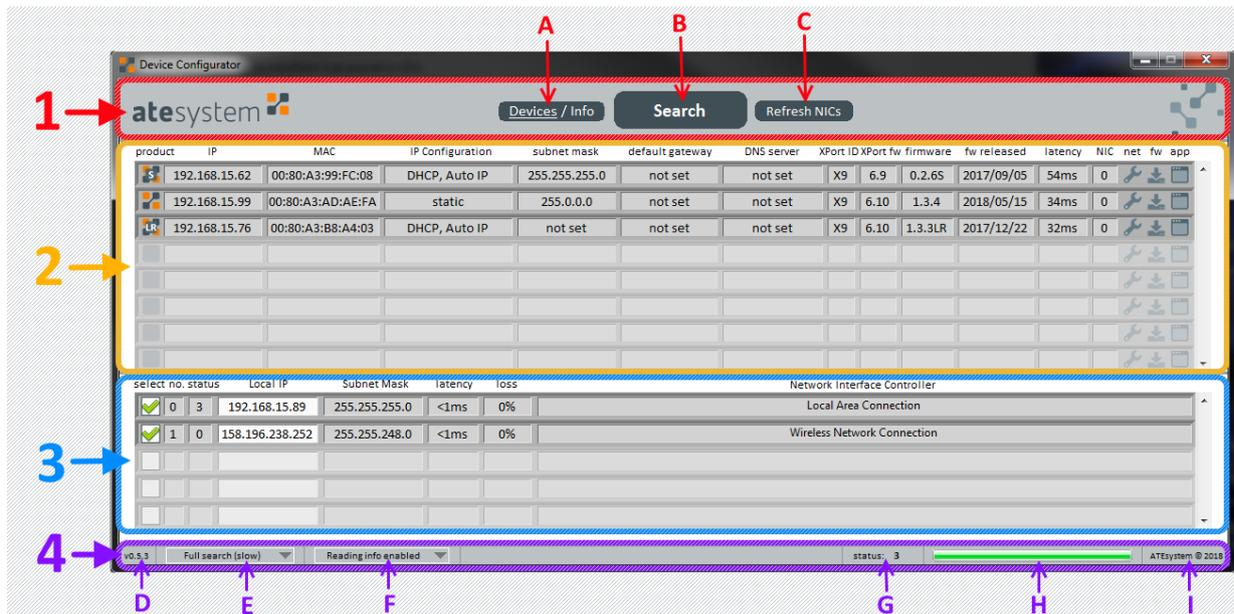

Fig. 1 – Layout and description of Device Configurator’s main window
- H. Status bar – visual representation of status (Fig.1 – 4.G)
Networks window (block No. 3, Fig. 1) shows all available network adapters, local IPv4 address, subnet mask, response, and loss rate. Response and loss rate are tested by ping. The local IP address can also be entered manually if the application does not find the adapter. In addition, this window displays two numeric values, *no.* is the order of adapters 0 through n, and *status* is the number of devices found in the particular network. The first checkbox from the left then determines which networks will be searched when you press the *Search* button (1B).
Devices window (block No. 2, Fig. 1) alternates with the *Info* window (chapter 2.3) depending on the position of *Devices/Info* switch (1A). Here you can find the most important information about the devices found. Product's icons are explained below; *IP*, *subnet mask*, *default gateway*, *DNS server* and *IP configuration* are regular network configuration parameters, which can be changed by clicking on the key icon with a *net* label (more details in chapter 2.4). If any setting is missing, the default is used, and system shows the following message: *not set*. *XPort ID* and *XPort fw* cannot be customized and indicate the type of internal Ethernet controller in the current source. *Firmware* and *fw released* show the version and release date of the device's firmware, *latency* indicates the approximate response, *NIC* field shows in what network the device was found (corresponds to the *no.* field in *Networks* window, chapter 2.1). Last three icons are described below.
Info window (block No. 2, Fig. 1) depending on the position of *Devices/Info* switch (1A). It displays information about the device that is specified in the relevant manual if the *Reading info enabled* option is selected in drop-down list on the Status Bar (4F).